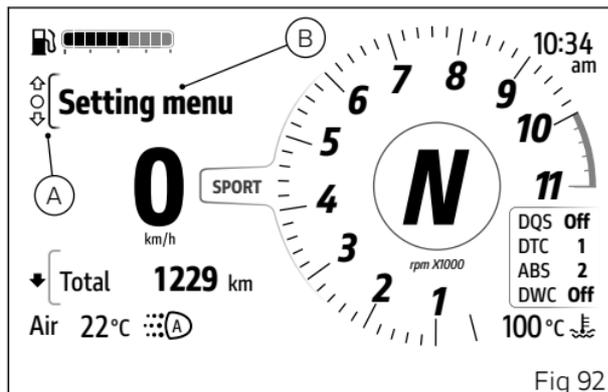

Fig 92
- Select the Interactive Menu (A, Fig 92) by pressing and holding button (1) pressed for a long time.
- Use buttons (1) and (2) to select item "Setting menu" (B, Fig 92) and press the ENTER button (3).